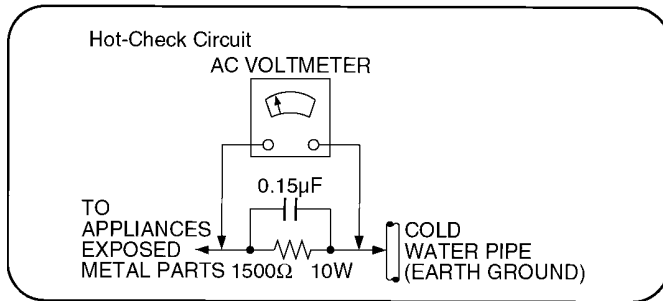

Figure 1
### 1.1.2. Leakage current hot check (See Figure 1 .)
2. Connect a 1.5kΩ, 10 watts resistor, in parallel with a 0.15μF capacitors, between each exposed metallic part on the set and a good earth ground such as a water pipe, as shown in Figure 1.